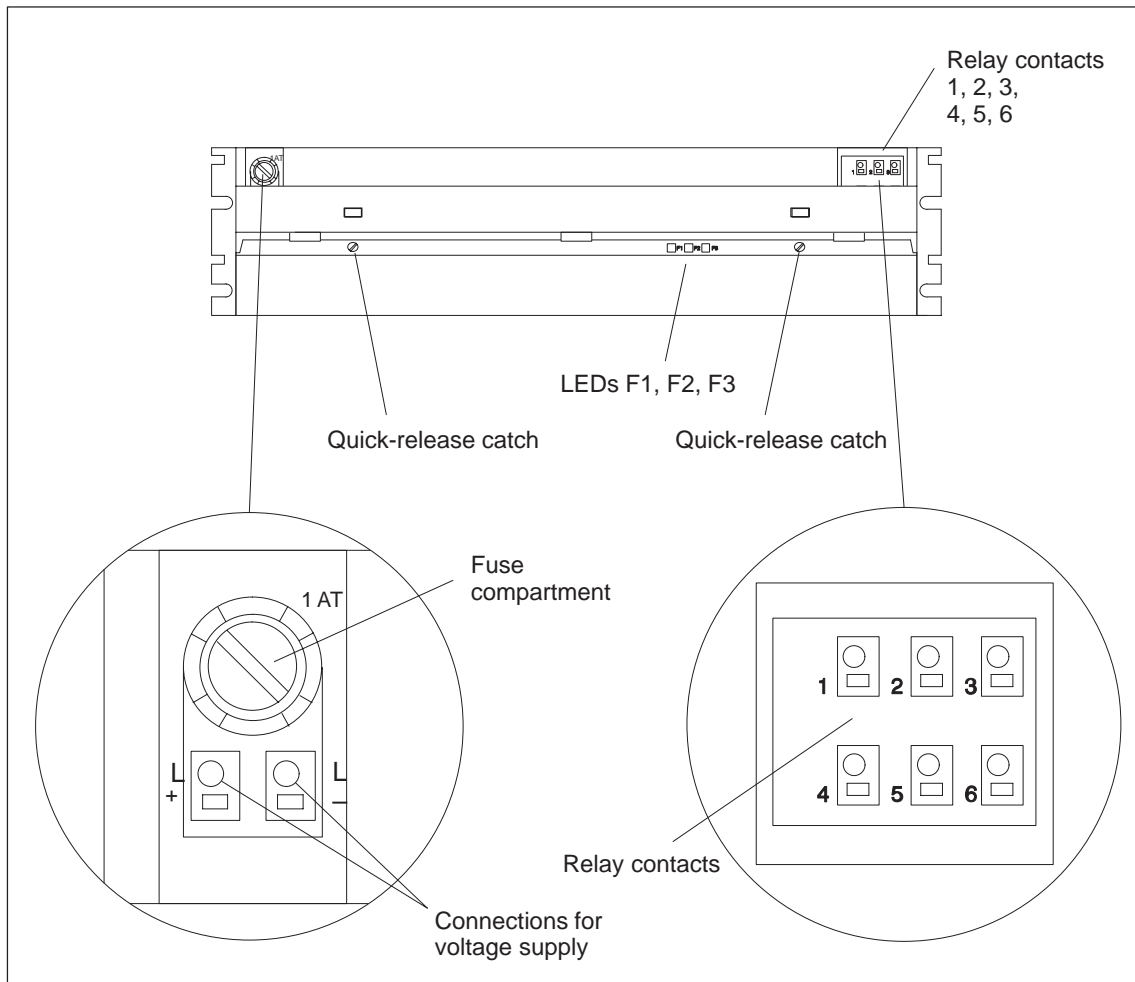

Figure 4-1 Operator Controls and Indicators on the Fan Subassembly
**Operator Controls and Indicators** Figure 4-1 shows you the front view of the fan subassembly.